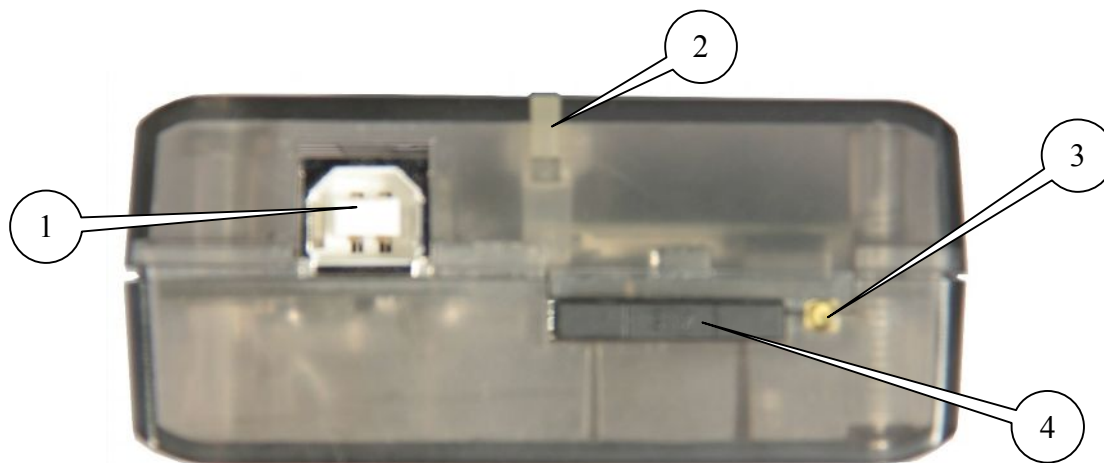
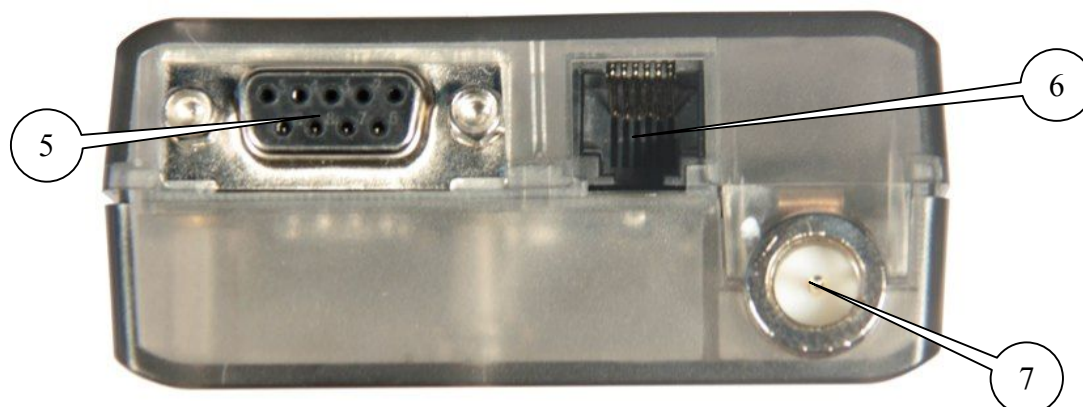

Fig.2.4.1 Front view
Fig.2.4.2 Back view
The modem ES75iT is a compact device. The exterior appearance is represented on Fig. 2.4.1 and Fig.2.4.2.
- to extract the SIM tray by pressing the SIM tray extract button (Fig. 2.4.1);
Connect the GSM antenna to the antenna connector (Fig. 2.4.2) as well as the commutating cable (RS232 or USB). Thereupon you need to feed power supply to the modem through the connector RJ11 (Fig. 2.4.1).